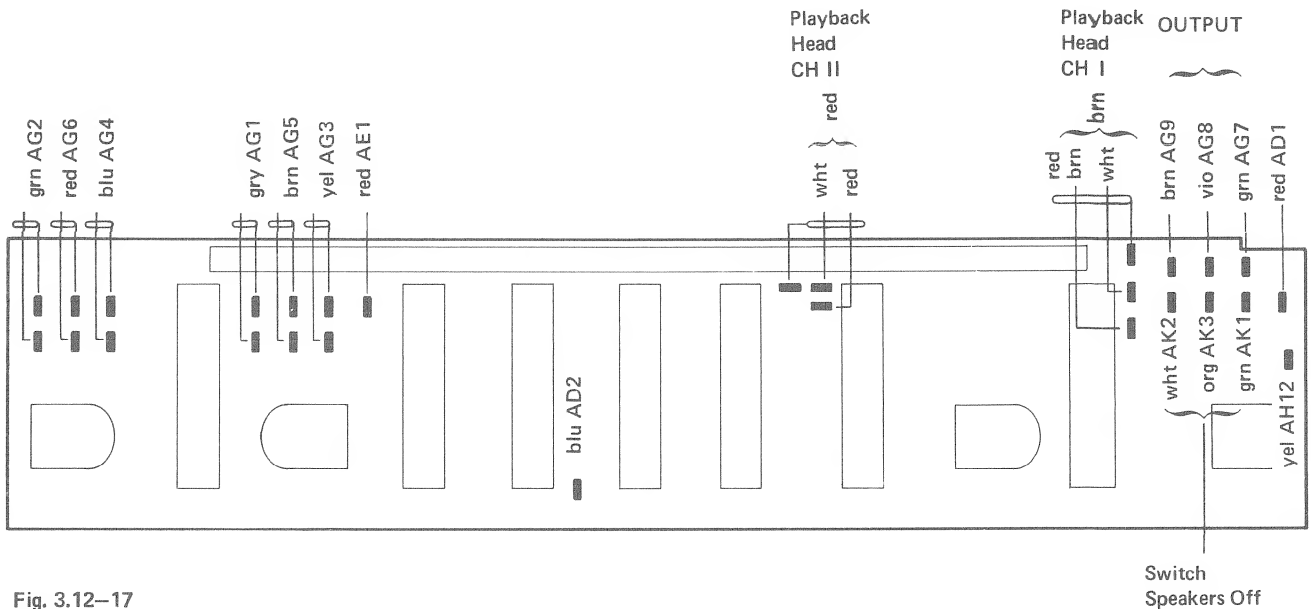

Fig. 3.12-17
- Disconnect all terminals on the switch board (fig. 3.12-17).